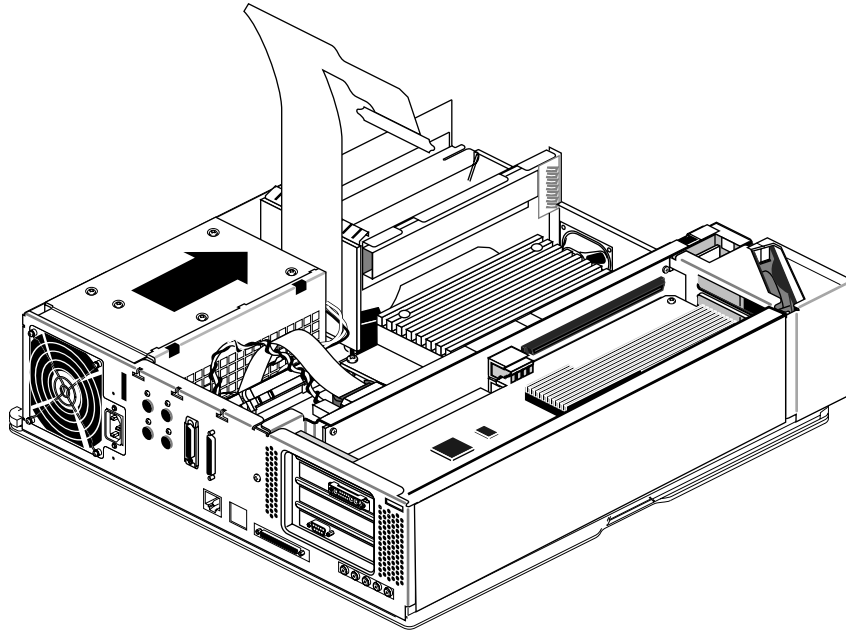

Figure 9-21 Sliding the Power Supply Forward
- Move the power supply toward the front of the workstation about 1/4", as shown in Figure 9-21, by pushing on the flat surfaces around the fan.